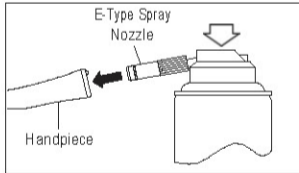

Fig. 15
- Make sure to **use the CORRECT application nozzle** (Fig.15) is connected to plastic valve at the top of the spray oil can. Firmly insert the application nozzle into the rear of the handpiece and activate the spray for 2- 3 seconds until the spray oil exhausts from the handpiece head.